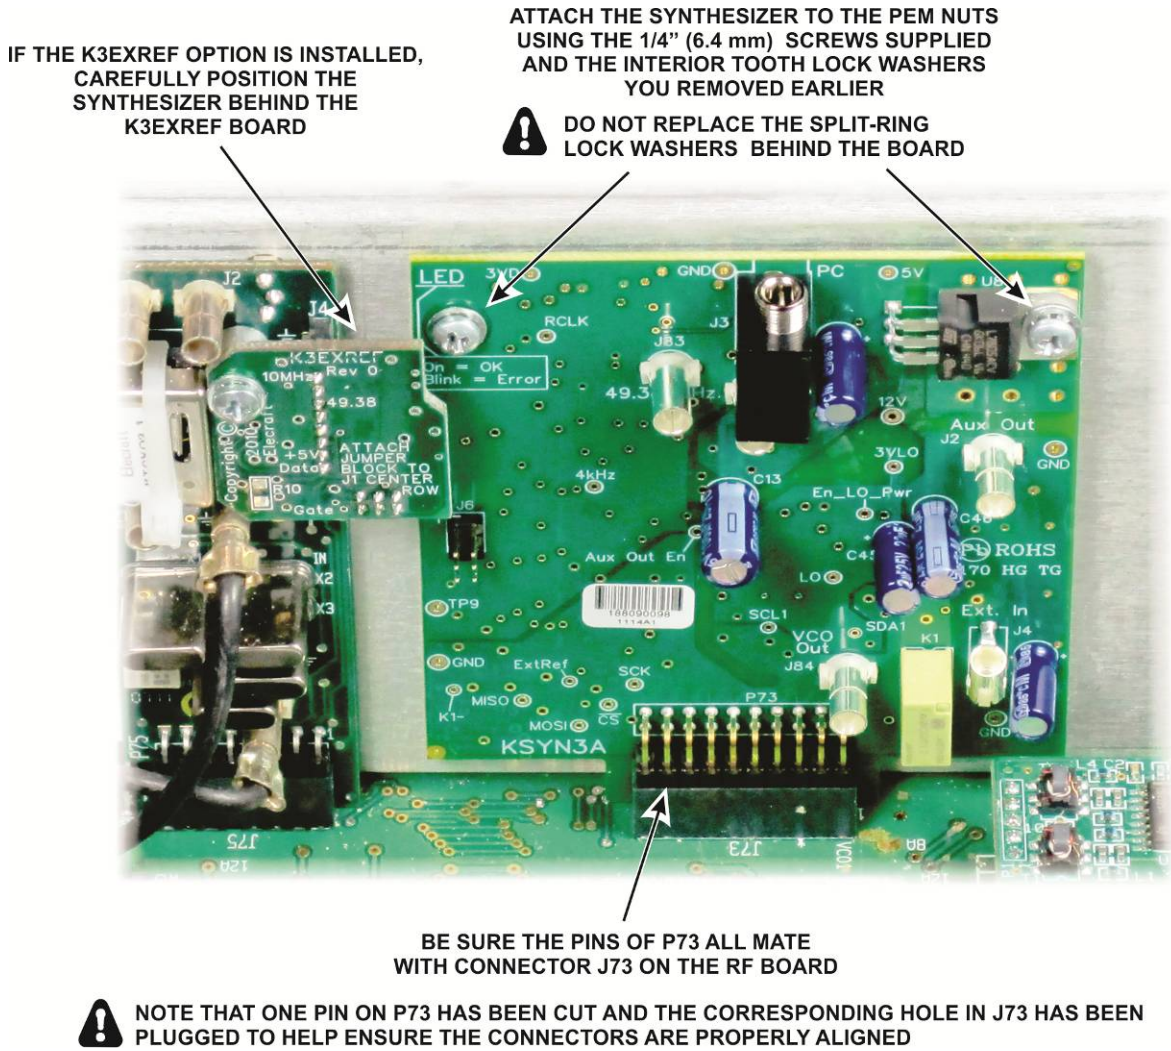

Figure 10. Mounting the Main Synthesizer Board.
□ Install the main KSYN3A board as shown in Figure 10. Use the interior tooth lock washers you removed earlier with the new screws that came with the synthesizer. Do not replace the lock washers behind the synthesizer board that you removed earlier. The KSYN3A board rests directly against the PEM nuts on the front panel shield.
2. With the two coaxial cables connected, install the synthesizer just as you did the main synthesizer, using the screws supplied with the KSYN3A board and the interior tooth lock washers you removed earlier (see Figure 10).